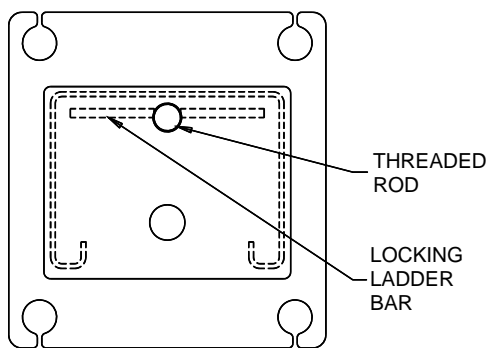

Fig 7 – Locking Ladder Orientation
- 11) Stand up both rear (small) column assemblies near the rear corners of the lift and check the locking ladder bar orientation per Fig 7. Note that the center of the threaded rod is offset (away from the back of the column) from the center of the ladder. Thread the locking ladder jam nut (located under the column top plate) down approximately 6" to allow the ladder to be lifted freely.